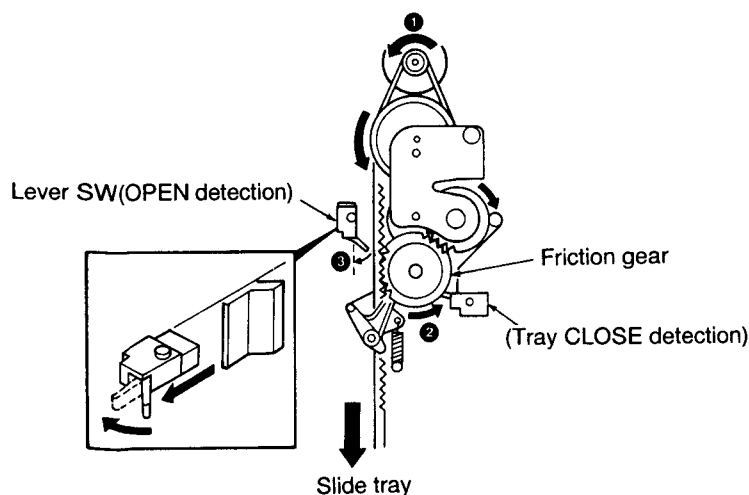

FIG. 4
If press the OPEN/CLOSE key during playback, traverse keeping up condition, the loading motor rotates in the direction of the arrow (Fig. 4 ❶).
When the tray is almost finished opening, the lever switch (Fig. 4 ❷) is pressed by the projection on the rear side of the slide tray and opening comes to a stop.